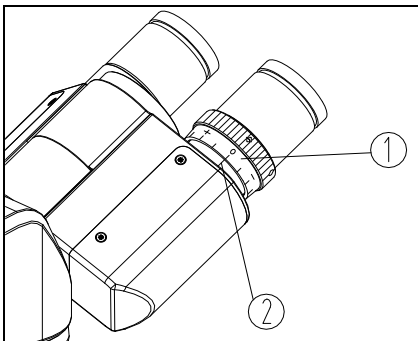

Fig.12
Observe the right eyepiece with the right eye, focus it until the image is clear. Then observe the left eyepiece with the left eye, if the image is not clear enough, rotate the diopter adjustment ring ① until the image is clear (See Fig.12).